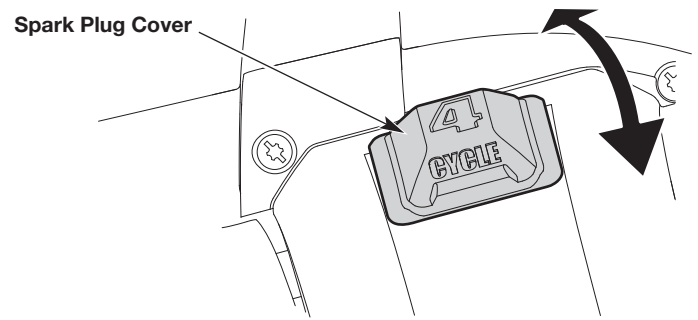

Fig. 16
2. Open the spark plug cover (Fig. 16). Grasp the spark plug boot firmly and pull it from the spark plug.